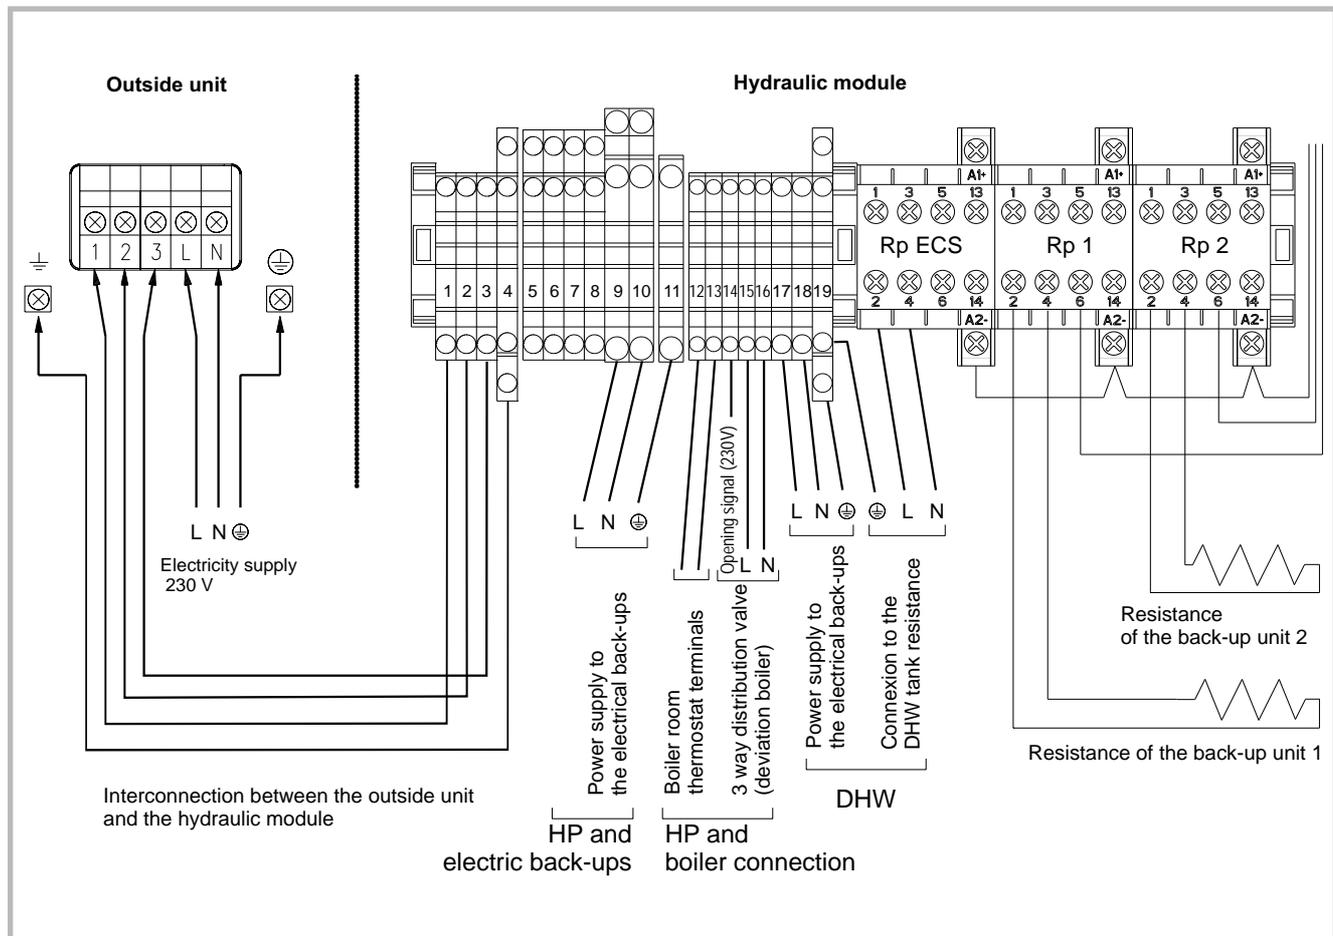

Figure 37 - Connection to terminal block and power relays
- Make the connections in accordance with the diagram(s) Fig. 37.